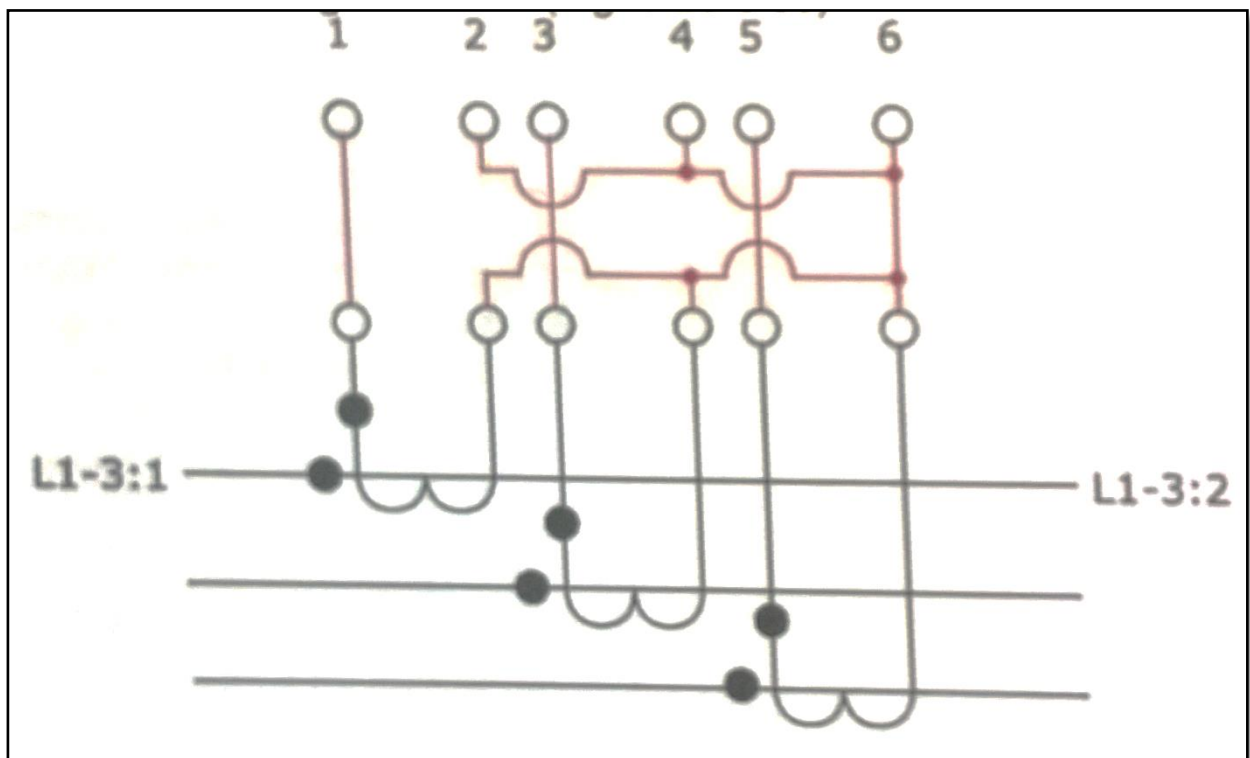

Figure 13.2: CT connections for Delta side of the transformer
- Now connect the CT connections on delta and Y side of the transformer in arrangement shown in figure 13.2 and 13.3 respectively.